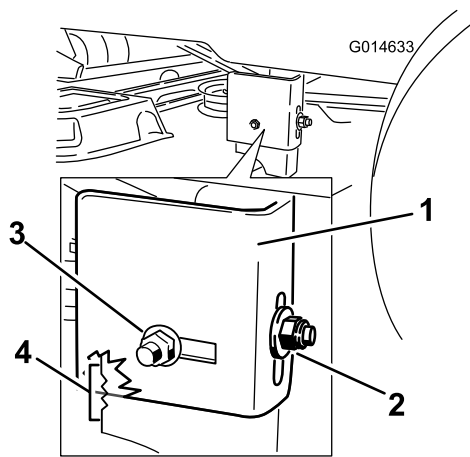

Figure 53
7. Move to the left side of the machine. Loosen, but do not remove, the rear locking nut on the hanger bracket (Figure 53).
8. Loosen the side locking nut on the hanger bracket just enough to allow the hanger to be adjusted (Figure 53). Use the notches on the welded bracket to measure the amount of adjustment. Each notch surface is equivalent to 1/16 of an inch. Adjust the height of the mower deck to the desired height.
9. Stop the deck at the adjusted position and tighten the side locking nut on the hanger bracket to hold the new position (Figure 53). Tighten the rear locking nut on the hanger bracket.